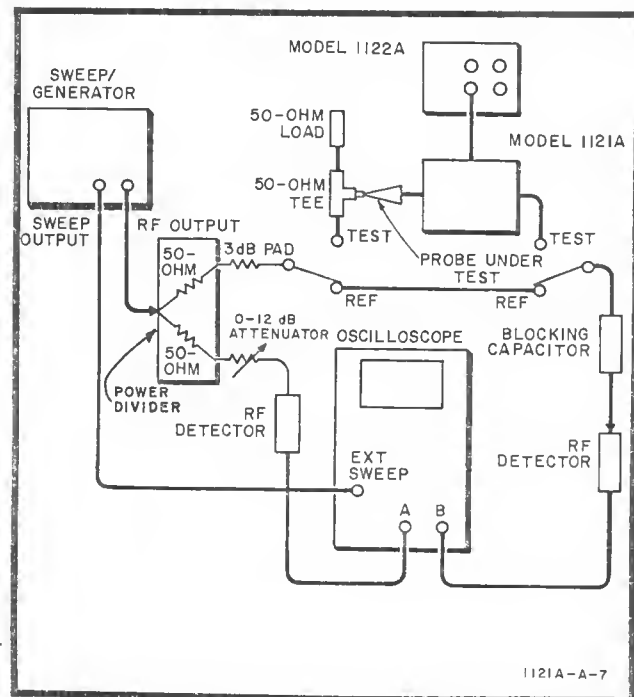

Figure 10. Flatness Test Setup
- Set up equipment and connect as shown in Figure 10.
i. Disconnect reference line and connect equipment to test position as shown in Figure 10, with 50-ohm load at probe tip and blocking capacitor at probe output.